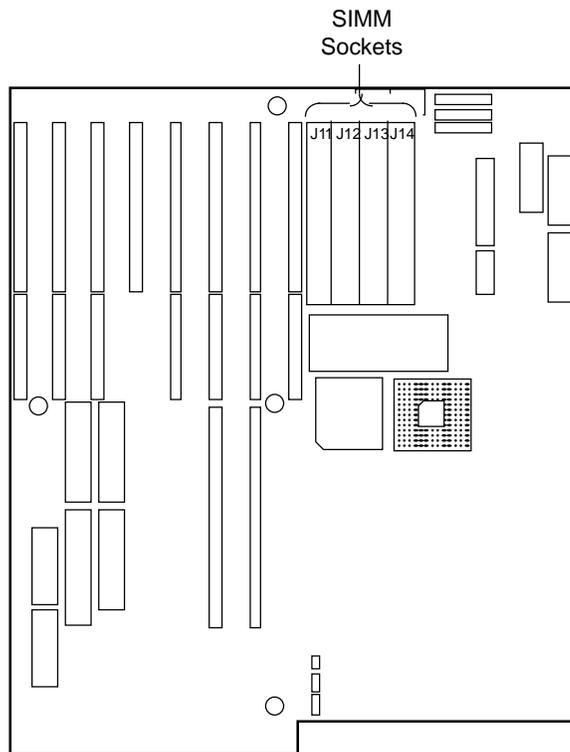

Figure A-2. Location of Memory (SIMM) Sockets on 6386/25 WGS
1. Locate the empty SIMM sockets, as shown in Figure A-2.